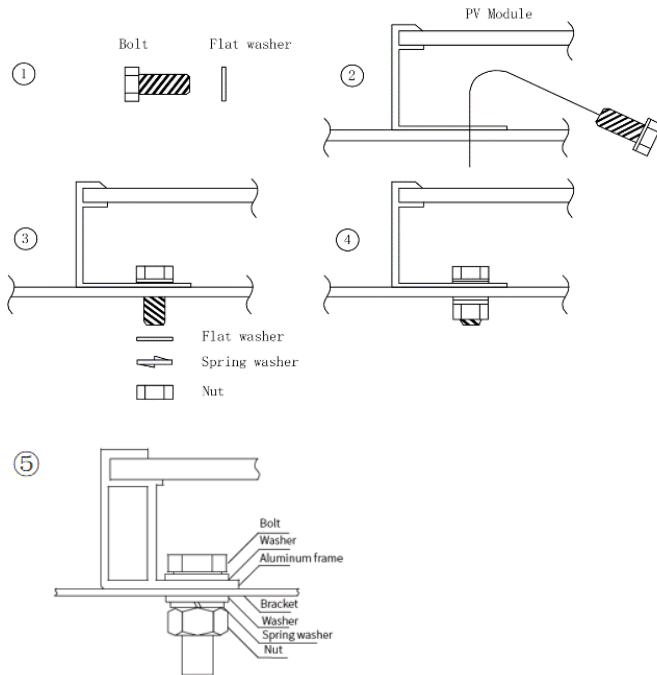

figure 3
- The method and the specifications of the fixing parts are shown in the **figure 3** below: